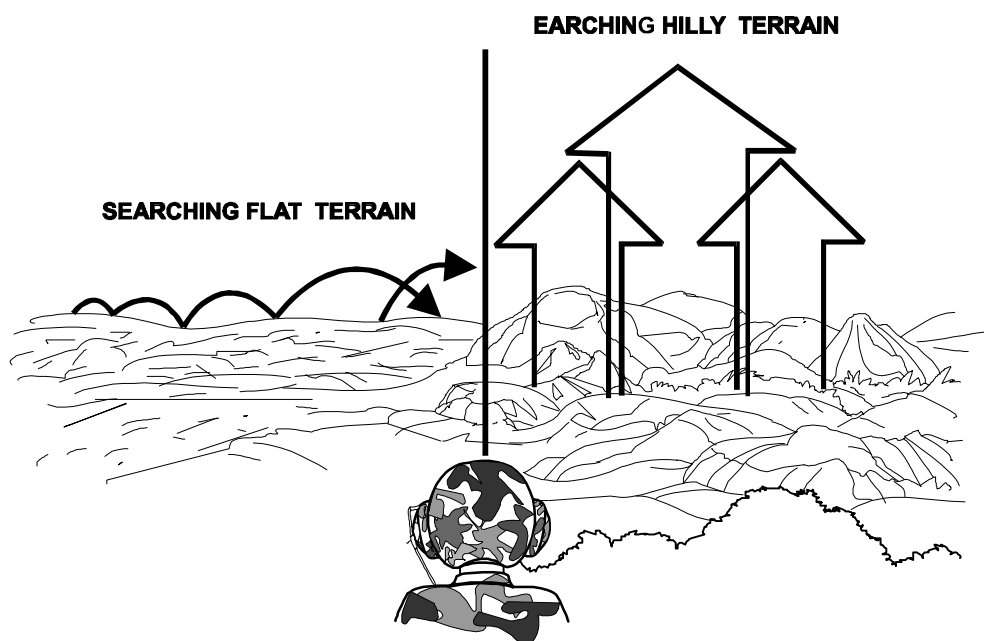

Figure 2-5. Air Search Techniques.
(1) Flat Terrain Scan (Air Search). In flat terrain, search the horizon by moving the eyes in short movements from object to object. (See fig. 2-5.) More detail is registered this way than with a continuous scan of the horizon.
(2) Hilly Terrain Scan (Air Search). In hilly terrain, search the sky beginning just below the
horizon and move upward. (See fig. 2-5.) Use prominent terrain features as points of reference to ensure overlapping areas of search.